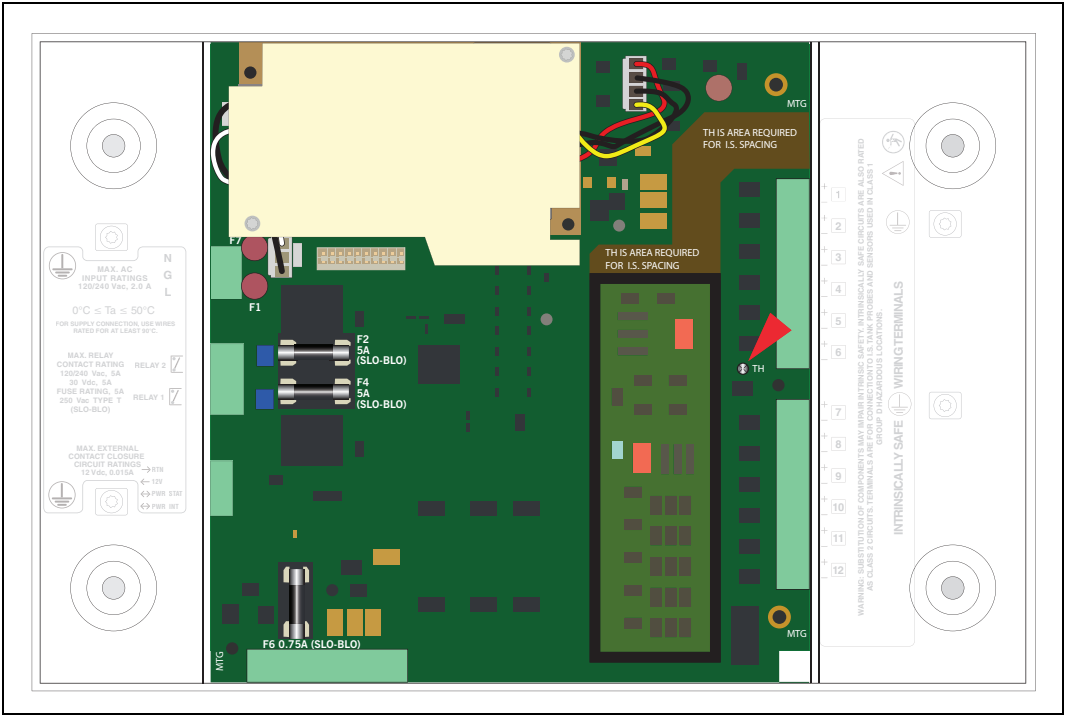

Figure 13. USIOM Board Snap-On Retaining Post
8. With your fingers under the two I.S. sockets and your thumbs positioned on top of them, lift/pry the right side of the USIOM board out enough to release the USIOM board from the snap-on retaining post between the two I.S. sockets (see Figure 13).